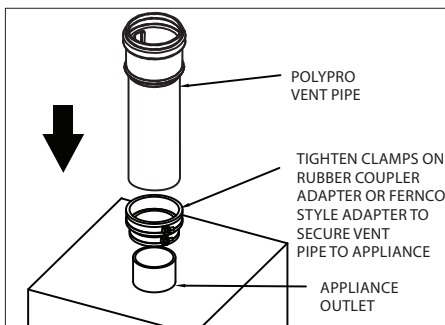

Figure 5
3. If the appliance outlet has a rubber boot or Fernco-style appliance adapter, then the PolyPro vent pipe may attach directly to the appliance **(Fig.5)**.